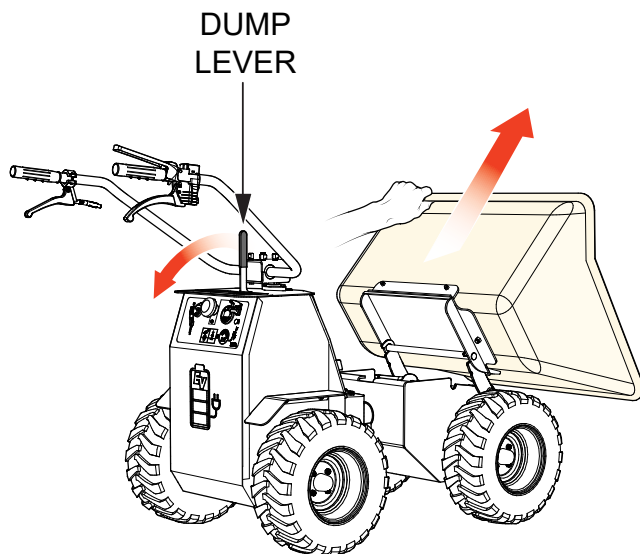

Figure 14. Tub Vertical Position
1. To place the tub in the dump position (Figure 14) pull back on the dump lever and release. The tub will automatically rotate to the vertical position and dump its contents.